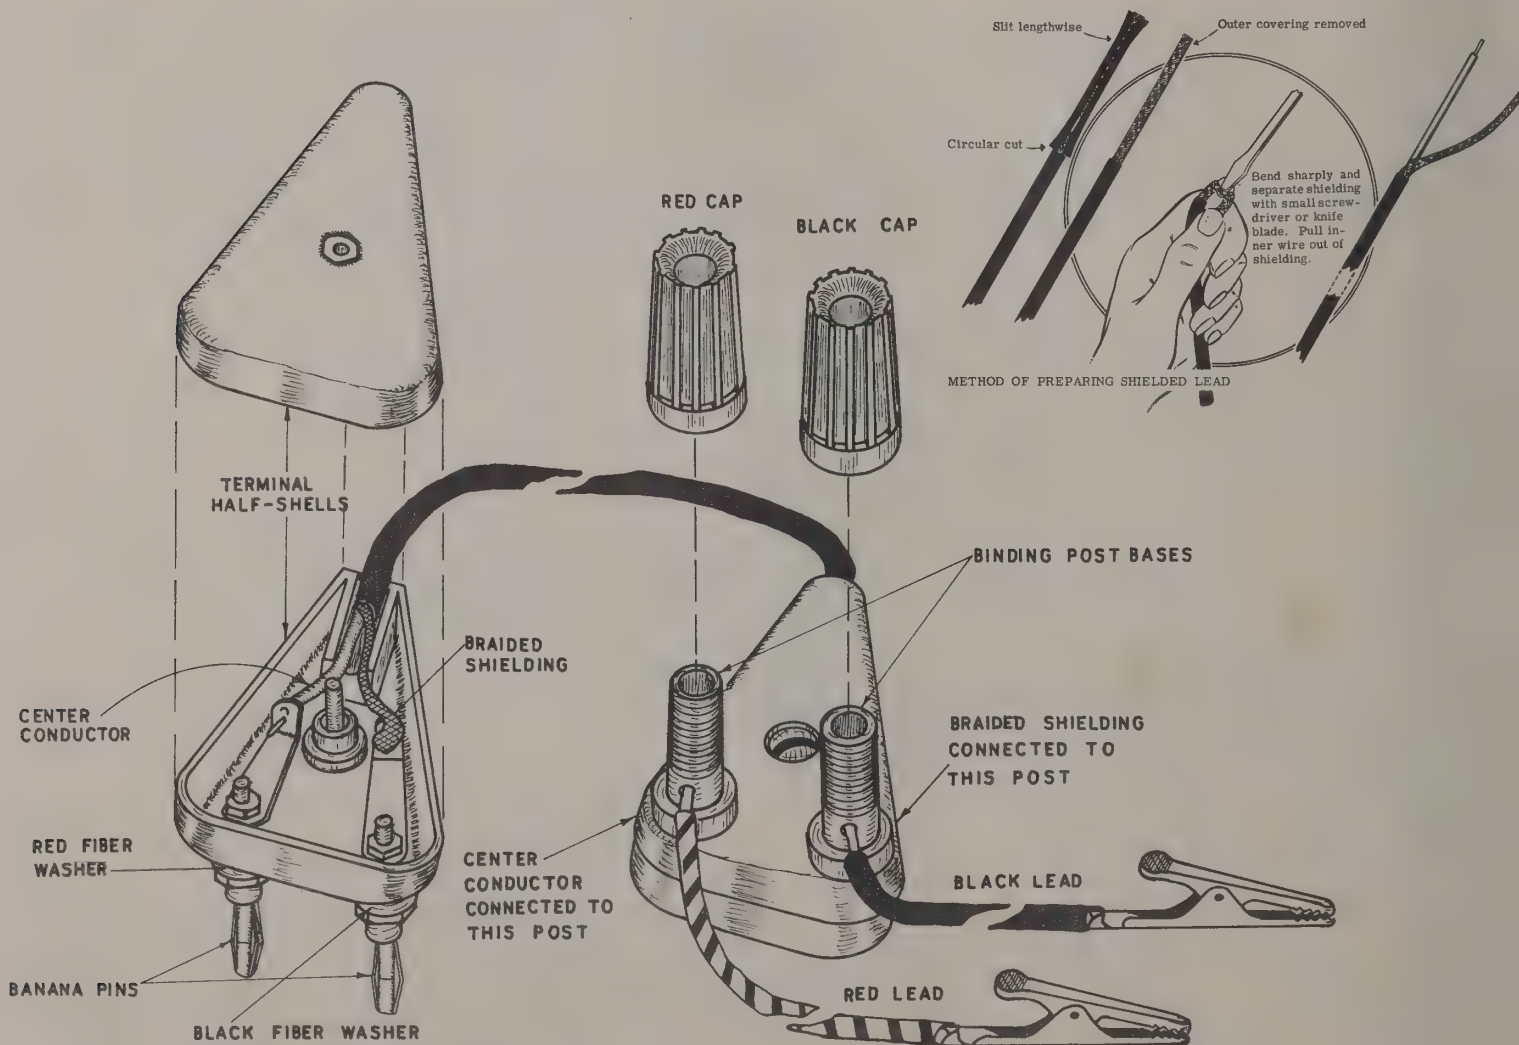

Figure 10
See Figure 10 for the following:
- (✓) Install two banana pins through the mounting holes of a terminal half-shell with a fiber washer (red or black) on the outside and with a #6 solder lug and 6-32 nuts on the inside. Install the red fiber washer and the black fiber washer on the same sides as shown in Figure 10.